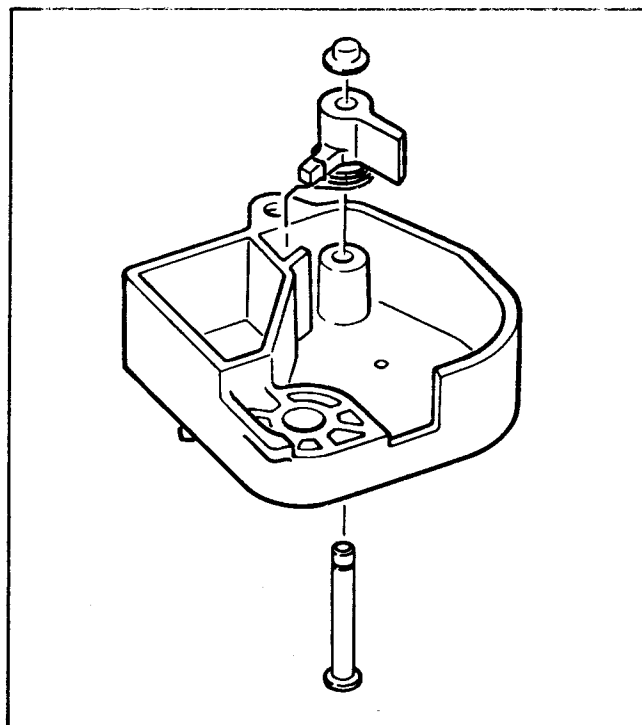

Figure 32
2. Install the index tang into the latch lever with the pin, making sure that the torsion spring is in the position shown in Figure 32.